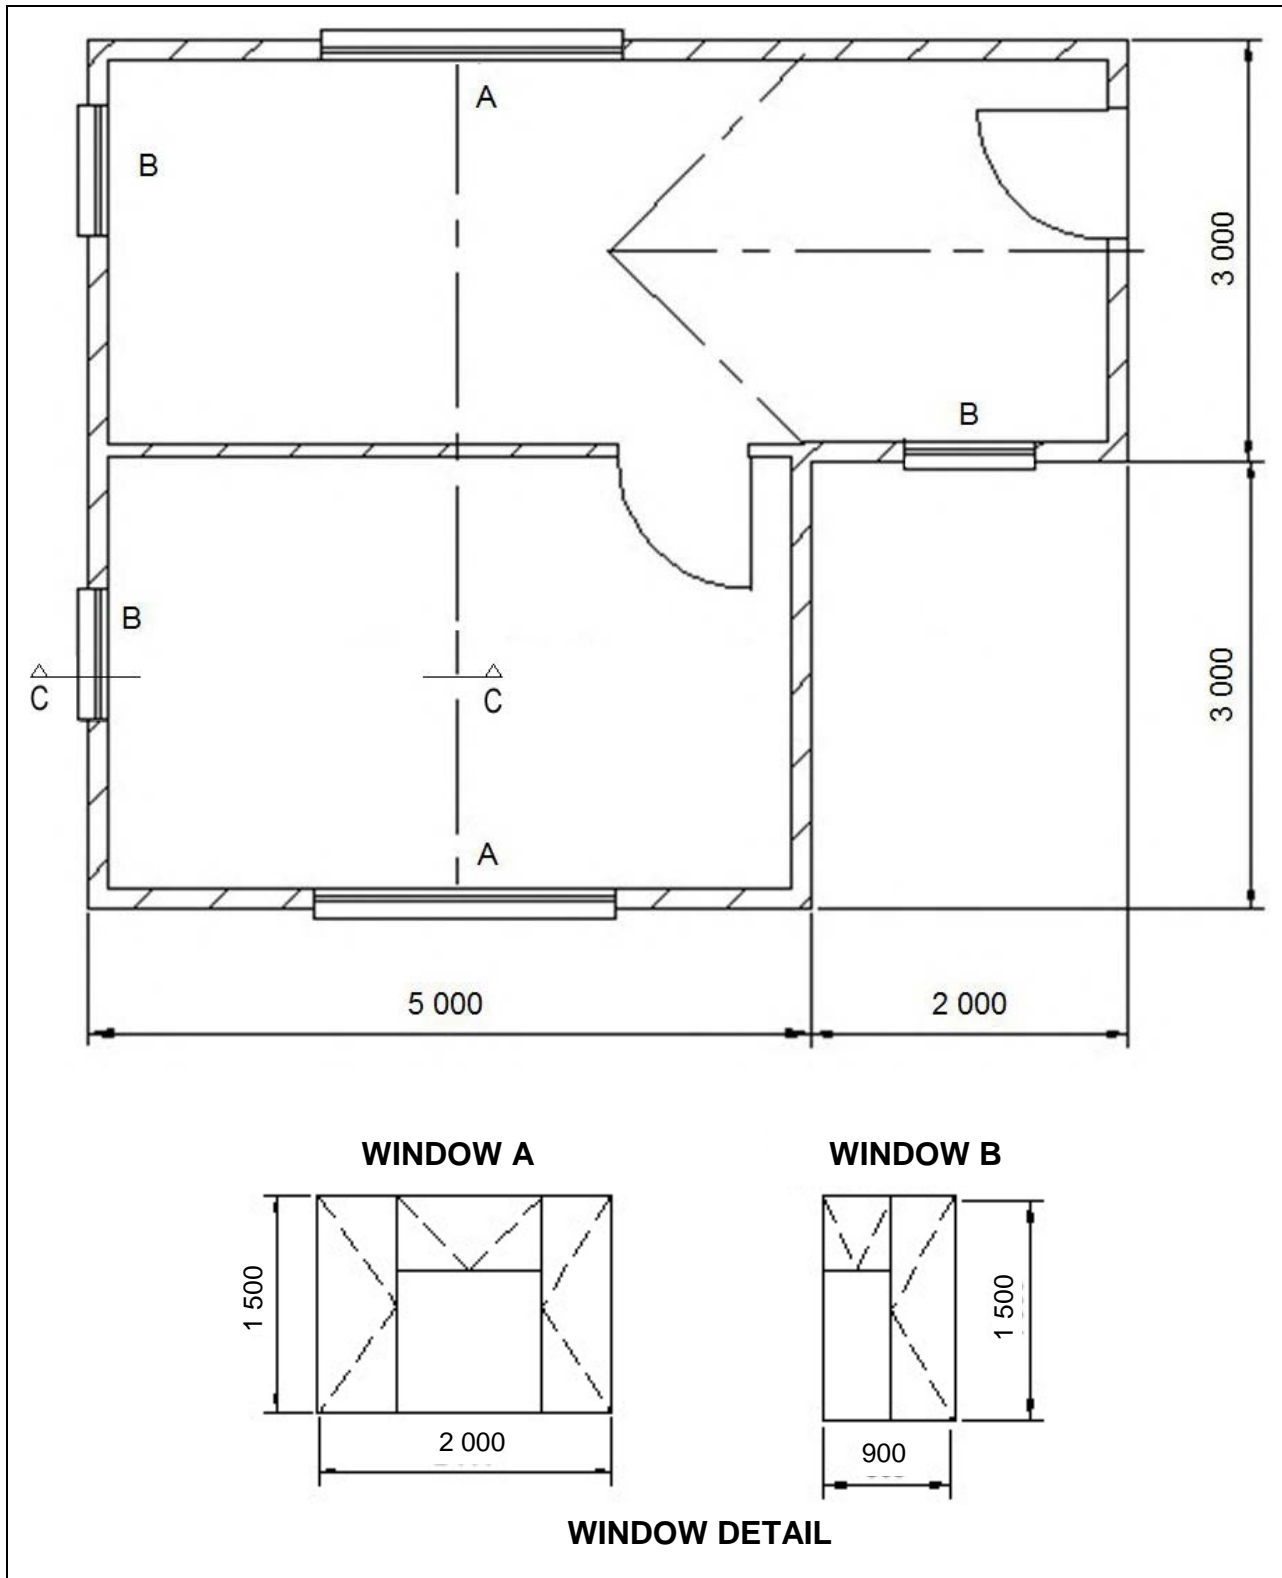

FIGURE 6.2
6.2 FIGURE 6.2 below (see on page 14) shows the floor plan of a dwelling.